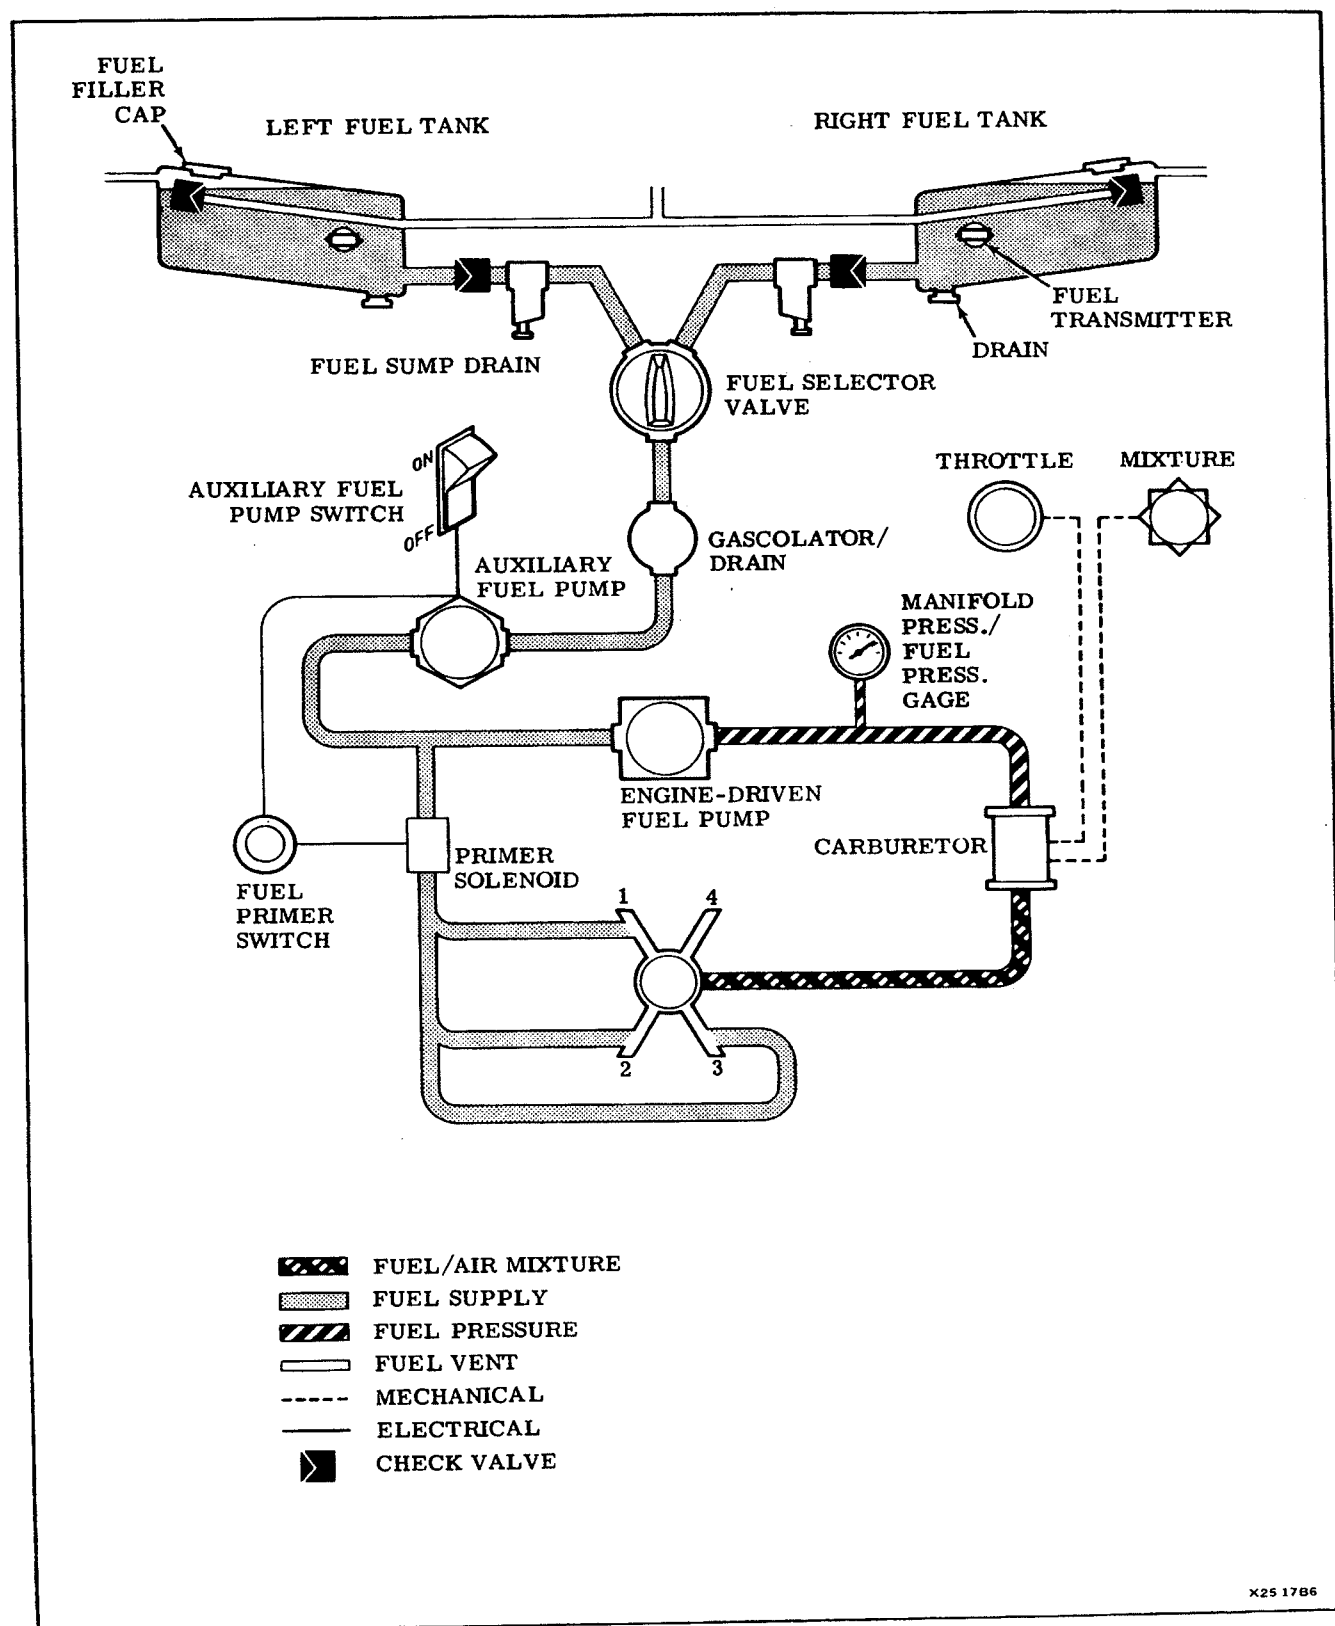

Figure 7-5. Fuel System Schematic
Aviation fuel (100/130 minimum octane, green color or low lead 100 octane, blue color) is supplied to the engine by two (2) integral fuel tanks, one in the forward center section of each wing. Normal fuel tank capacity is 25 U.S. gallons for each wing tank, 24 gallons of which are considered usable (see Figure 7-5). Optional fuel filler inlets are available that will increase total fuel capacity to 35 U.S. gallons in each tank, 34 gallons of which are considered usable. A reduced fuel load indicator is located in the filler neck of the optional installation. This indicator is used to indicate a usable fuel capacity of 24 U.S. gallons with aircraft in normal flight attitude. From the wing tanks, fuel flow is directed through a selector valve, gascolator, electric fuel pump (with by-pass) to an engine-driven fuel pump for delivery to the engine.